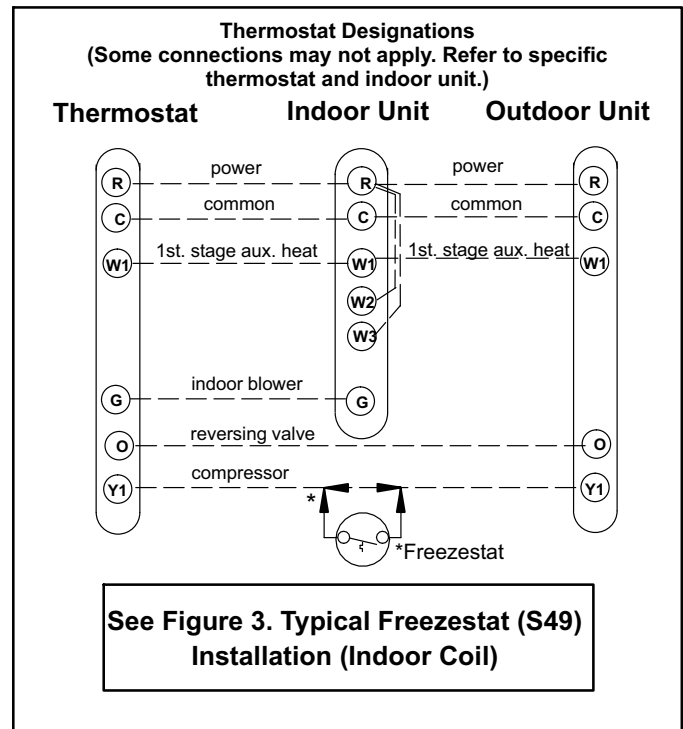

Figure 4. S49 Freezestat Installation
3. - Connect freezestat (S49) wires as exempld in figure 4.